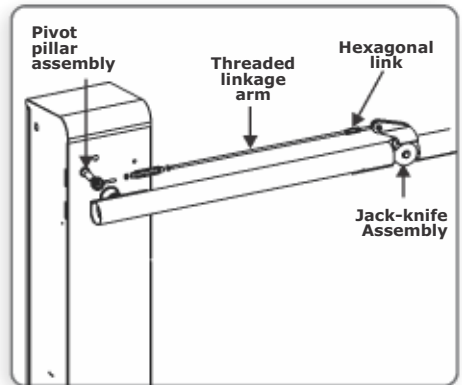

FIGURE 13
5. Using a hacksaw, cut the threaded linkage arm to the necessary length - which will correspond with the length of the boom arm - and assemble the linkage arm and link it to the **Jack-knife Assembly** first as per Figure 13.